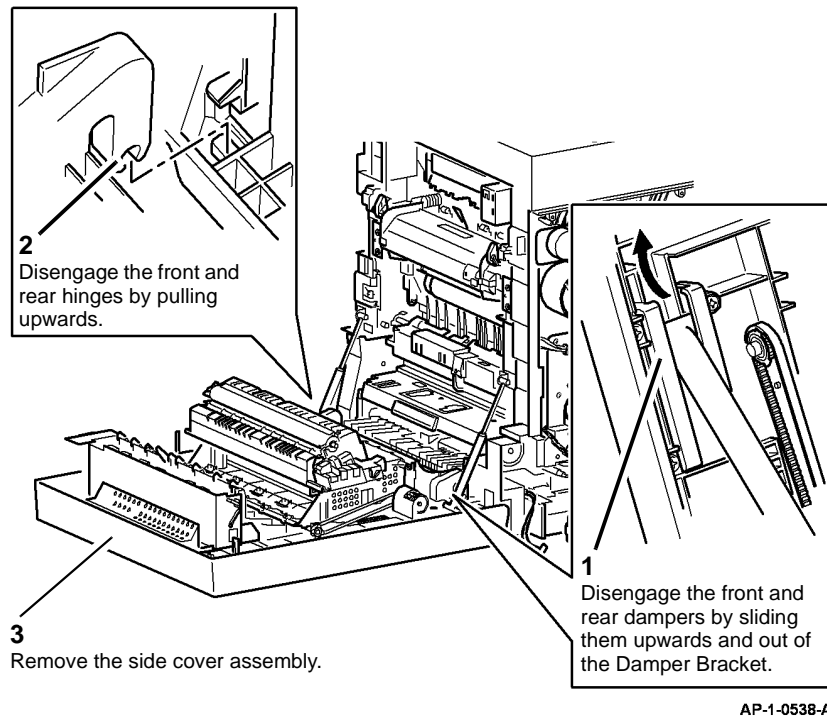

Figure 3 Removing the Side Cover Assembly
5. Remove the Side Cover Assembly (Figure 3).